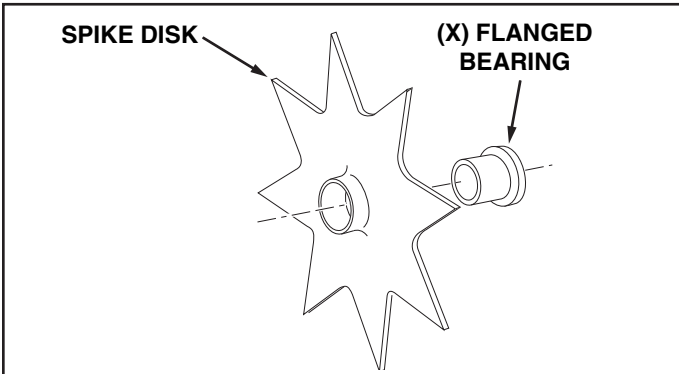

FIGURE 12
30. Push a flange bearing into each of the seven drive disks, from the side shown in figure 12.